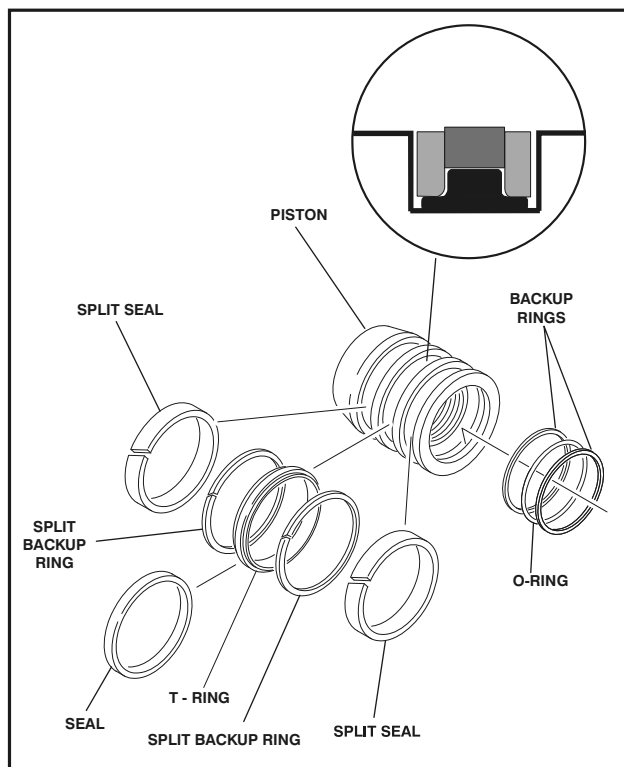

Figure 4-10. Piston Seal Kit Installation
9. Place new guide locks and seals in the applicable outside diameter grooves of the cylinder piston. (See Figure 4-10.)